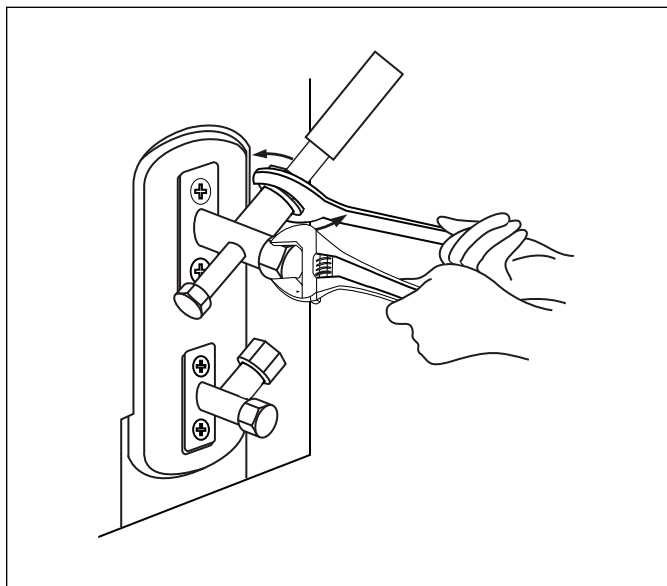

Figure 35
4. Using a wrench, hold the body of the valve. Do not grip the nut that seals the service valve. See Figure 35.